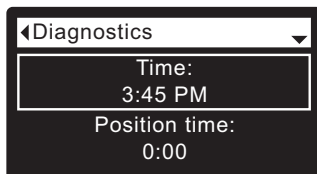

FIG. 99
8. Press the SELECT (O) button to display the Diagnostics screen (See Figure 99).